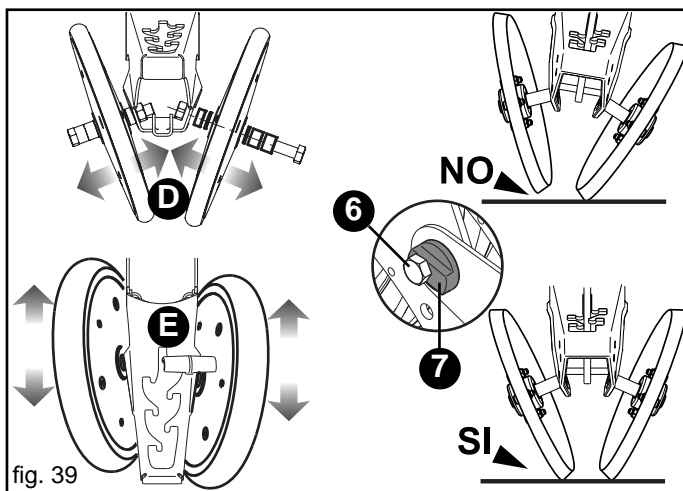

fig. 39
- change the position of the rear wheels on their support as shown in the diagram in Figure 39 (D-E);
If the covering wheels («NO», Fig. 39) are not aligned with the seed furrow, proceed as follows:
- Loosen the clamping screw (6, Fig. 39).
- Rotate the cam (7, Fig. 39) by 180° in a clockwise direction to move the covering wheels to the right, and in an anticlockwise direction to move them to the left.
NOTE: After centring the covering wheels, ensure that the wheels are all resting on the ground at the same time («SI», Fig. 39) and with the same pressure.